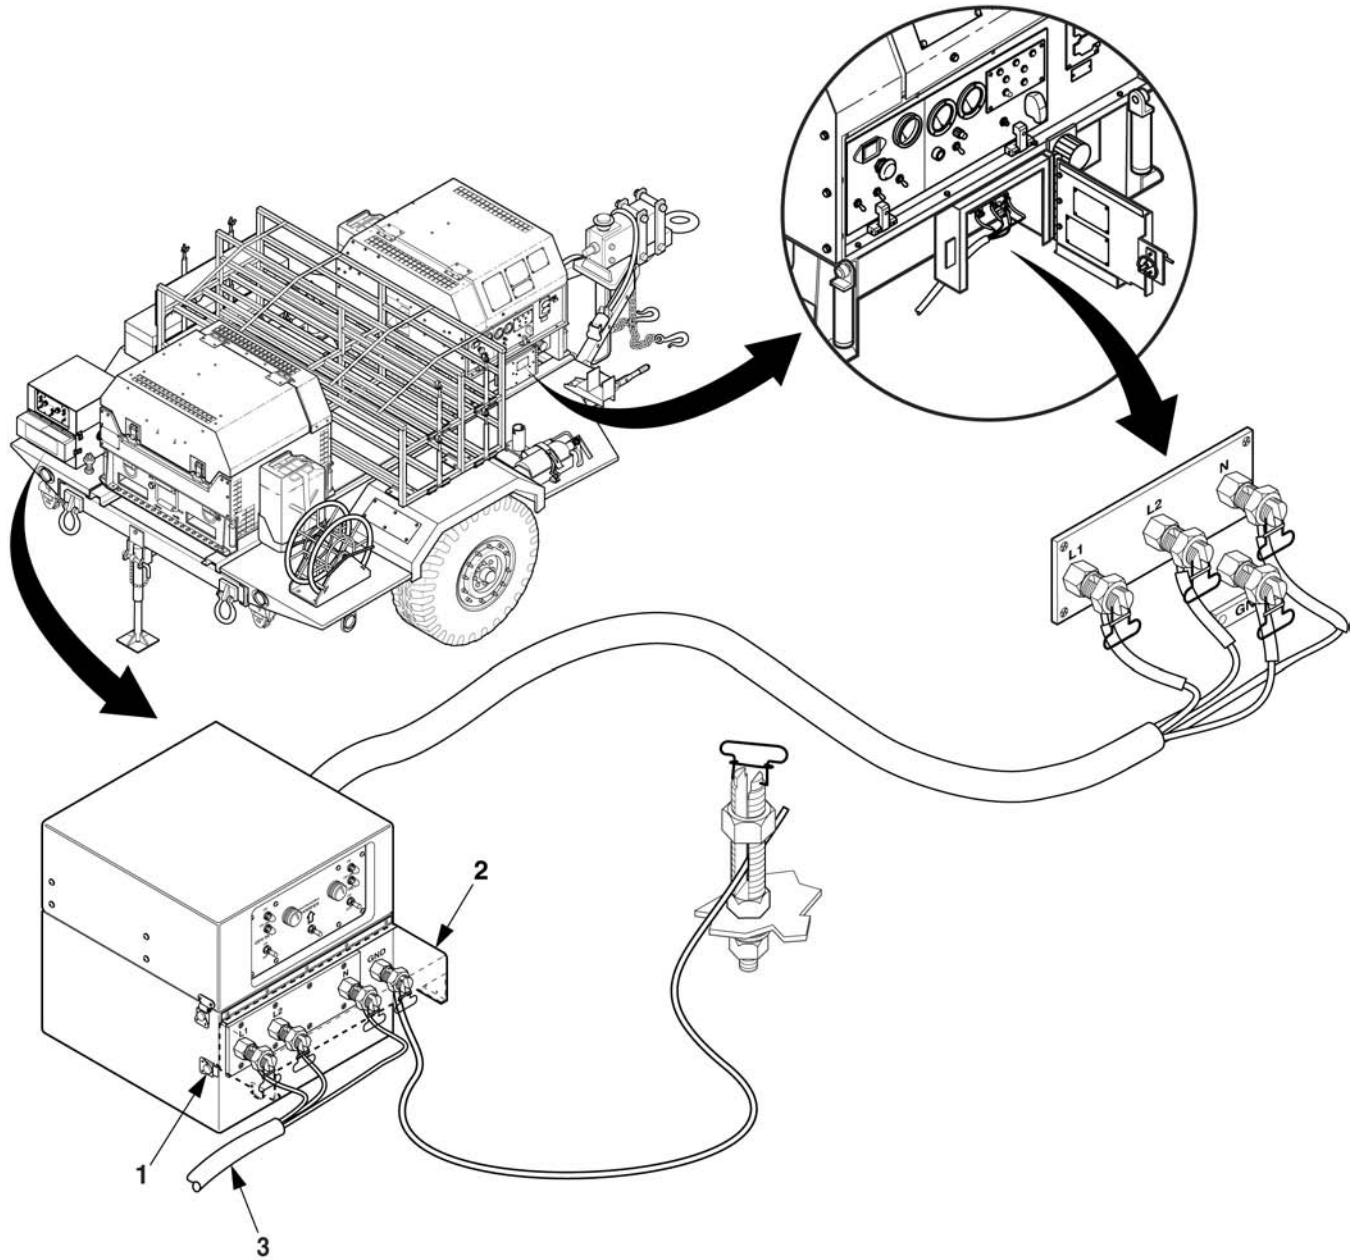

Figure 2-11. Disconnect Load Cables.
- (1) Release both clamping catches (1, Figure 2-11) and raise load terminal cover (2).
- (2) Using load terminal box wrench, loosen load terminal nuts.
- (3) Disconnect load cables (3) from switch box load terminals.
- (4) Store load cables with equipment that was being supplied with electric power.